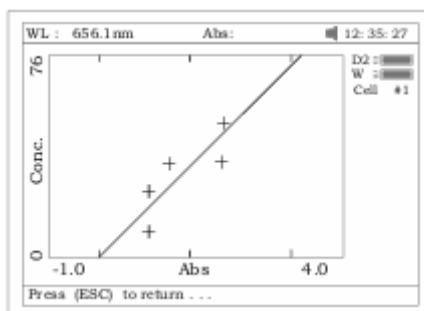
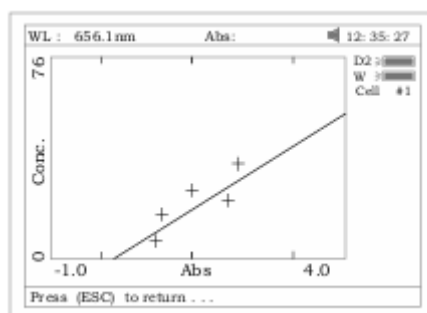

Fig.34 Linear through zero fit
Fig 37 Linear fit
3.3.4 Press **【F4】** to draw the curve. You can get a different curve by pressing **【F1】** to select a different fitting method. (See Fig 34-Fig37.) For linearfits, “r” represents the fitting coefficient of linear regression. $r=1$ is the best fitting. Usually “r” is very close to 1.